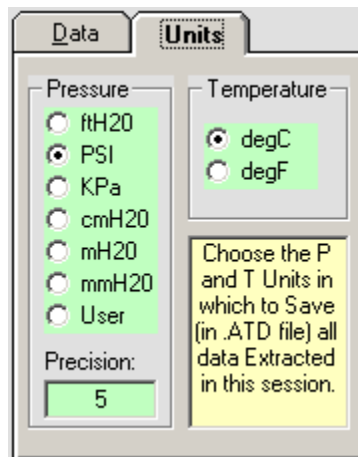

Figure 3.21
- The **Units** tab (figure 3.21) selects the parameter units which the extracted pressure and temperature data will be converted to when extracted. The precision of the pressure data may also be selected. The units of measure and precision settings will be used when the extracted data is displayed within Data Scout Advanced as well as the units saved in the extraction files (.atd and .csv). By default, the current pressure and temperature units of the transducer are selected.